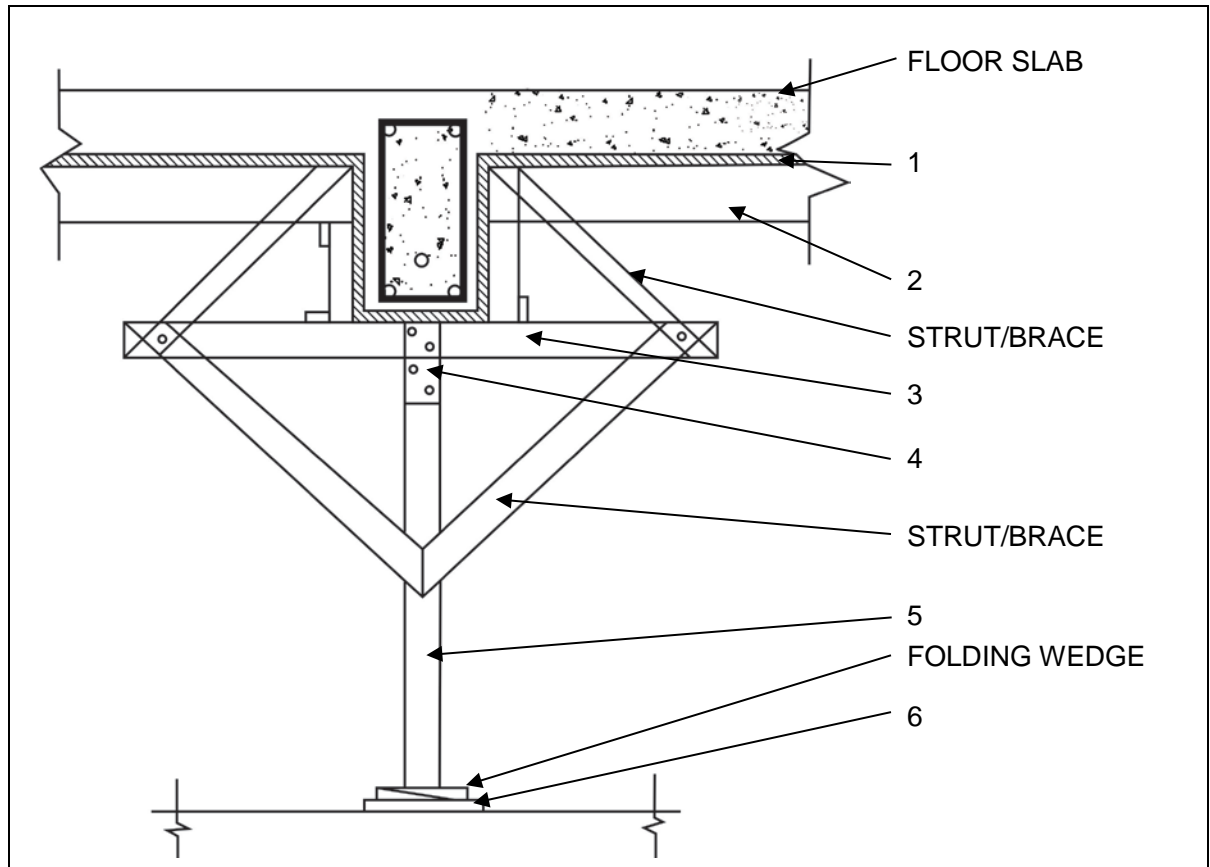

FIGURE 2.4
2.4 FIGURE 2.4 below shows the vertical section through a concrete beam and floor with formwork and support structure for a first floor with certain labels excluded.